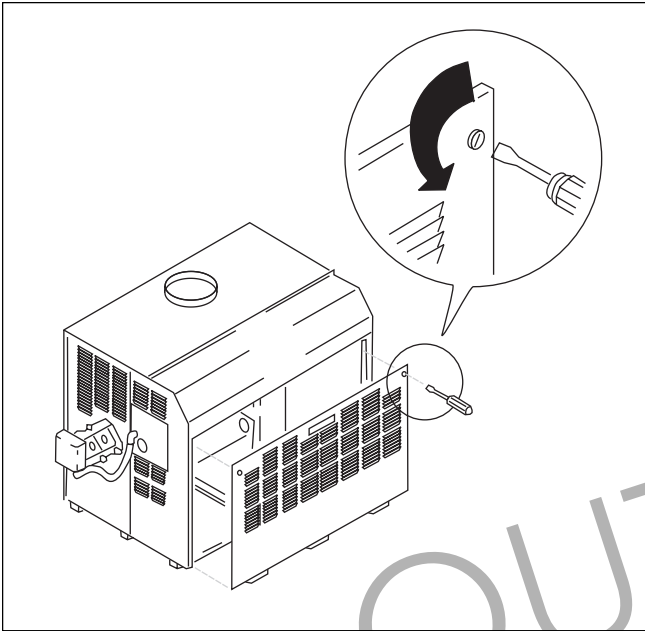

Figure 20. Lower Front Panel Removal.
1. Remove the lower front panel (see Figure 20).